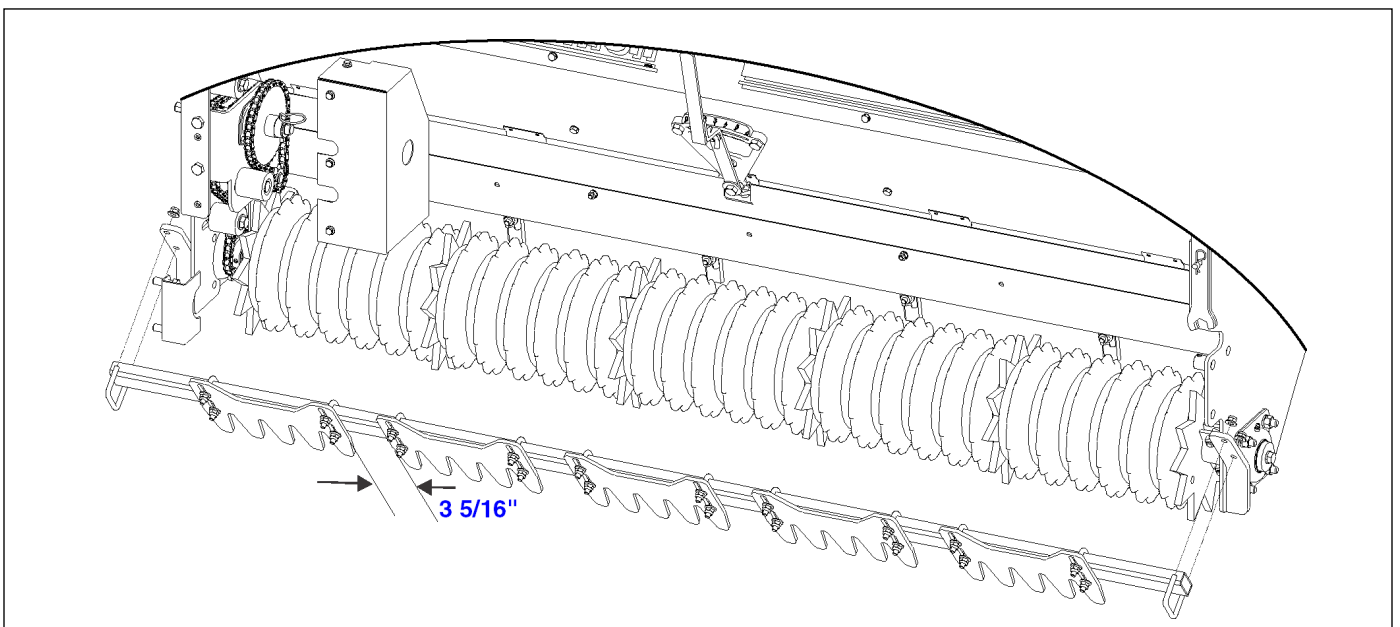

Figure 3-12: Positive Drive Roller
6. Reinstall scraper assembly to seeder and fine tune scraper adjustment. Tighten scraper hardware with roller lowered on level surface. See Figure 3-12..